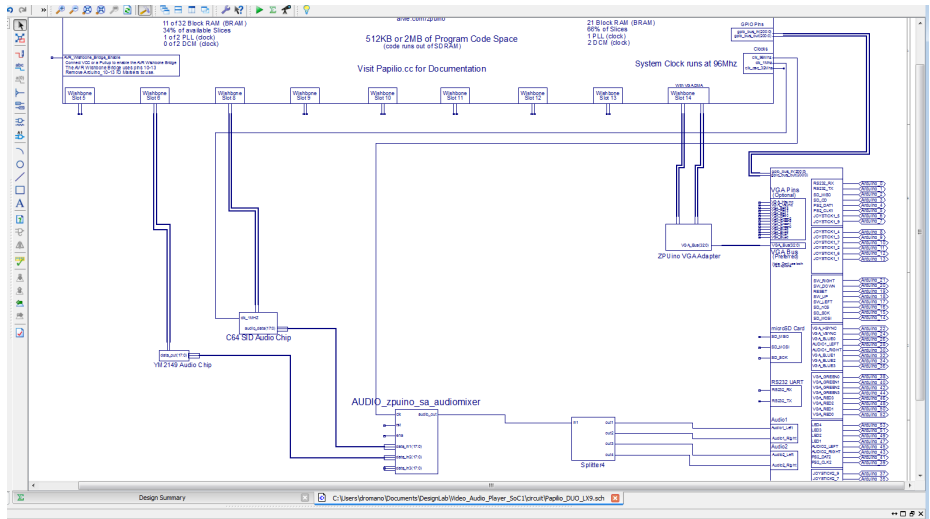

Figure 6-21 Add audiomixer and splitter
4. Add *AUDIO_zpuino_sa_audiomixer* and *Splitter4* symbols and connect them to the output of the YM2149 and C64 SID. Also connect the ck (clock) of the audiomixer to the ck_96MHz clock of the ZPUino, as shown in Figure 6-21.